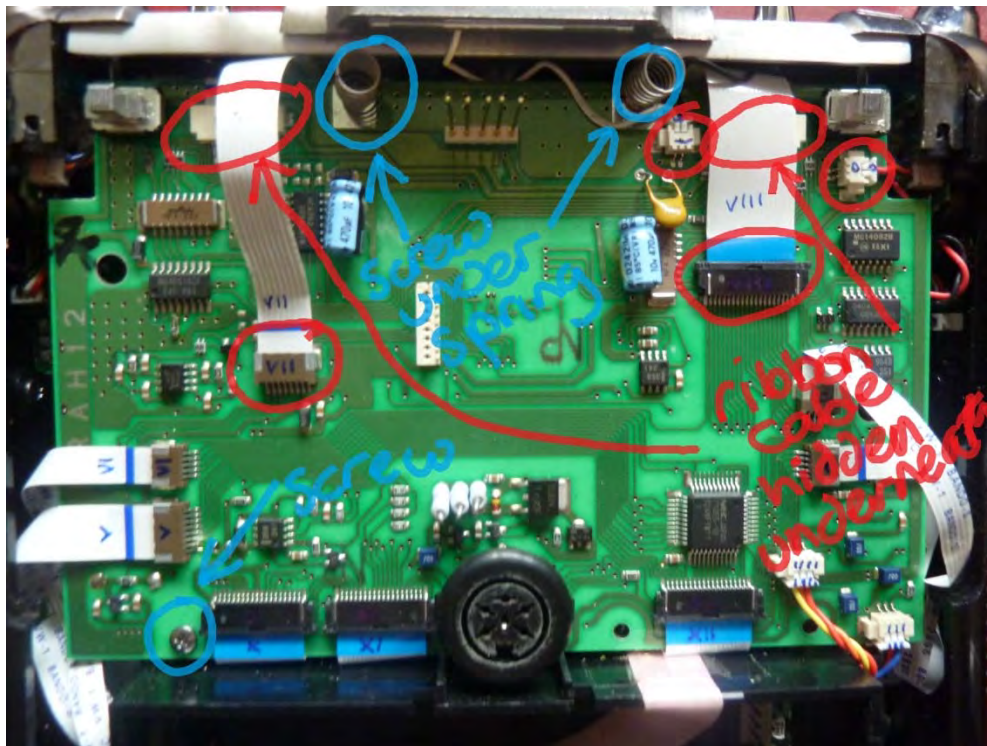

Figure 11 Removing the main PCB
3. Remove the 4 ribbon cables, 2 connectors and 3 screws shown in Figure 11 from the main PCB.